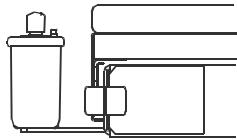

Figure 3-10. Table End Stop (Models A, W, and Wi)
4. Referring to Figure 3-10, adjust the Table End Stop as pictured.
5. **Discovery A, W & Wi** - Remove the table end stop (Figure 3-10).